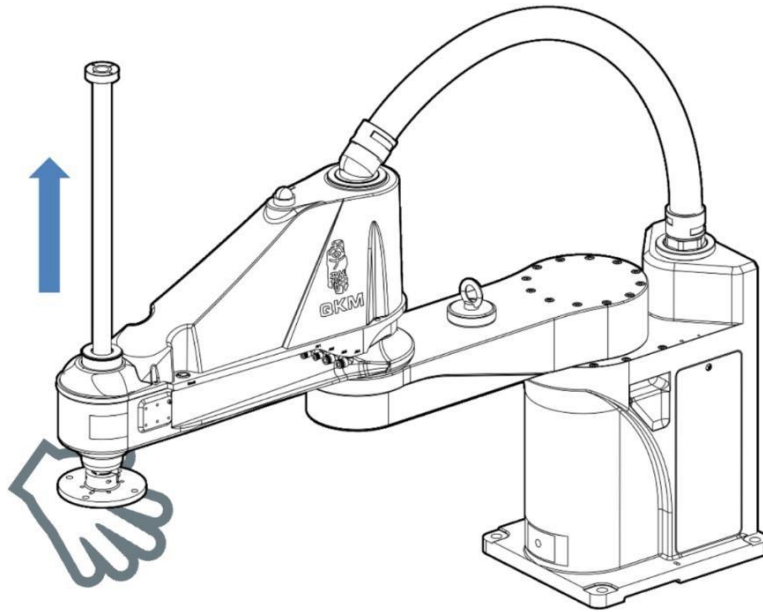

Figure 4-4 Push up spline screw shaft
Step 3 Hold the end of the screw, then press the brake button and do not release it until the spline screw shaft is pushed up to the top, as shown in Figure 4-4